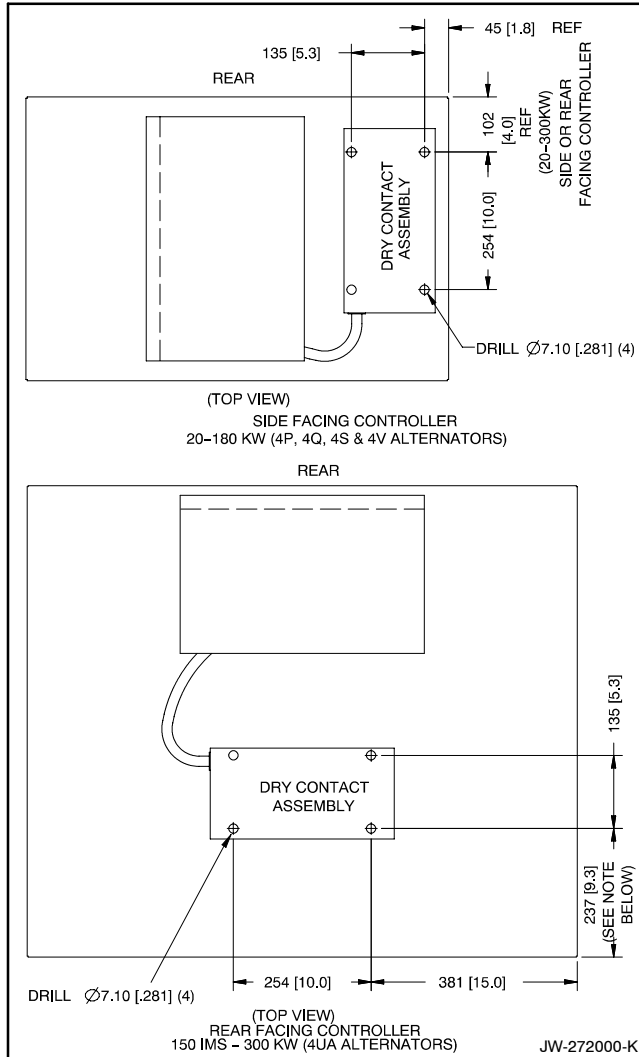

Figure 6 Junction Box Drilling Information (20-300 kW)
4.1.1 Drill four 7.1 mm (0.281 in.) diameter holes in the junction box as shown in Figure 6. The ten-relay dry contact kit mounts behind the controller.
4.1.4 Mount the ten-relay dry contact assembly (GM25951) to the junction box using four vibromounts (229353), eight lock washers (X-22-12), and eight whiz nuts (X-6210-2). See Figure 6 for the mounting position.